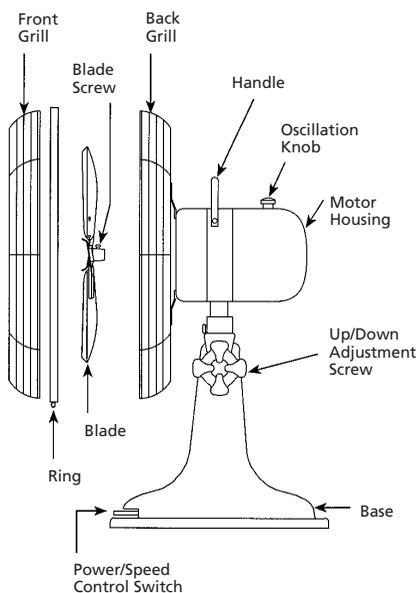

FIGURE 4
2. Disassemble grills by carefully removing the screw on the bottom of the grill and by squeezing the ring to remove the hook from the hole. See Figure 4.